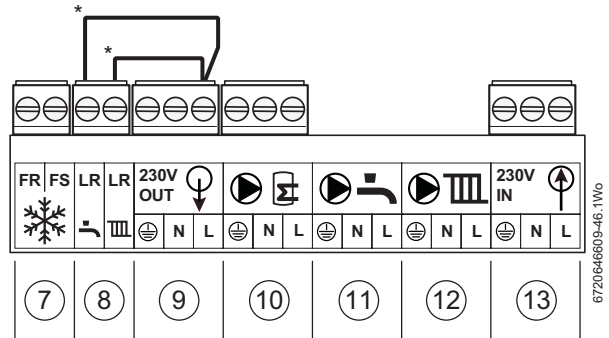

Fig. 41 Mains voltage connectors
Table 22 Key to figure 41
- ▶ When connecting Worcester plug-in or EMS intelligent controls, the links (→ items 8 & 9 in figure 41) must be left in the connection points.